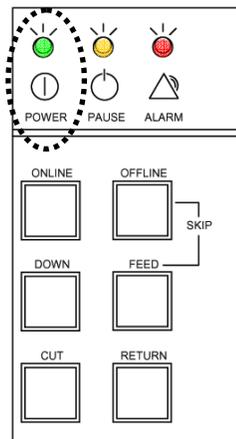

Figure 5-23.
4. To turn the Printer On, press the POWER LED switch (see Figure 5-23).
The printer can now be turned on/off with the POWER LED switch located on the operator panel (see Figure 5-23).